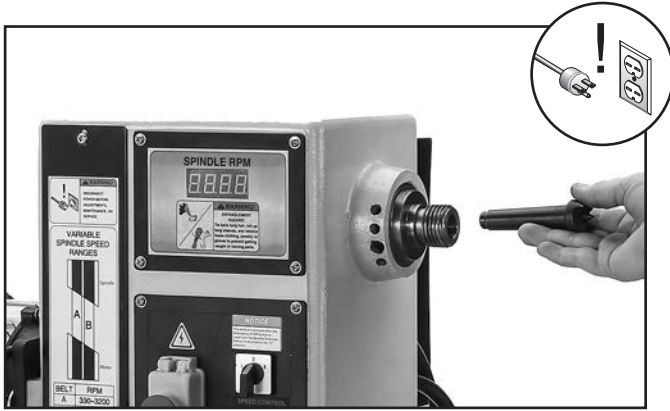

Figure 25. Installing center into the headstock spindle.
3. Insert the tapered end of the center into the spindle, and push it in with a quick, firm motion, as shown in **Figure 25**.